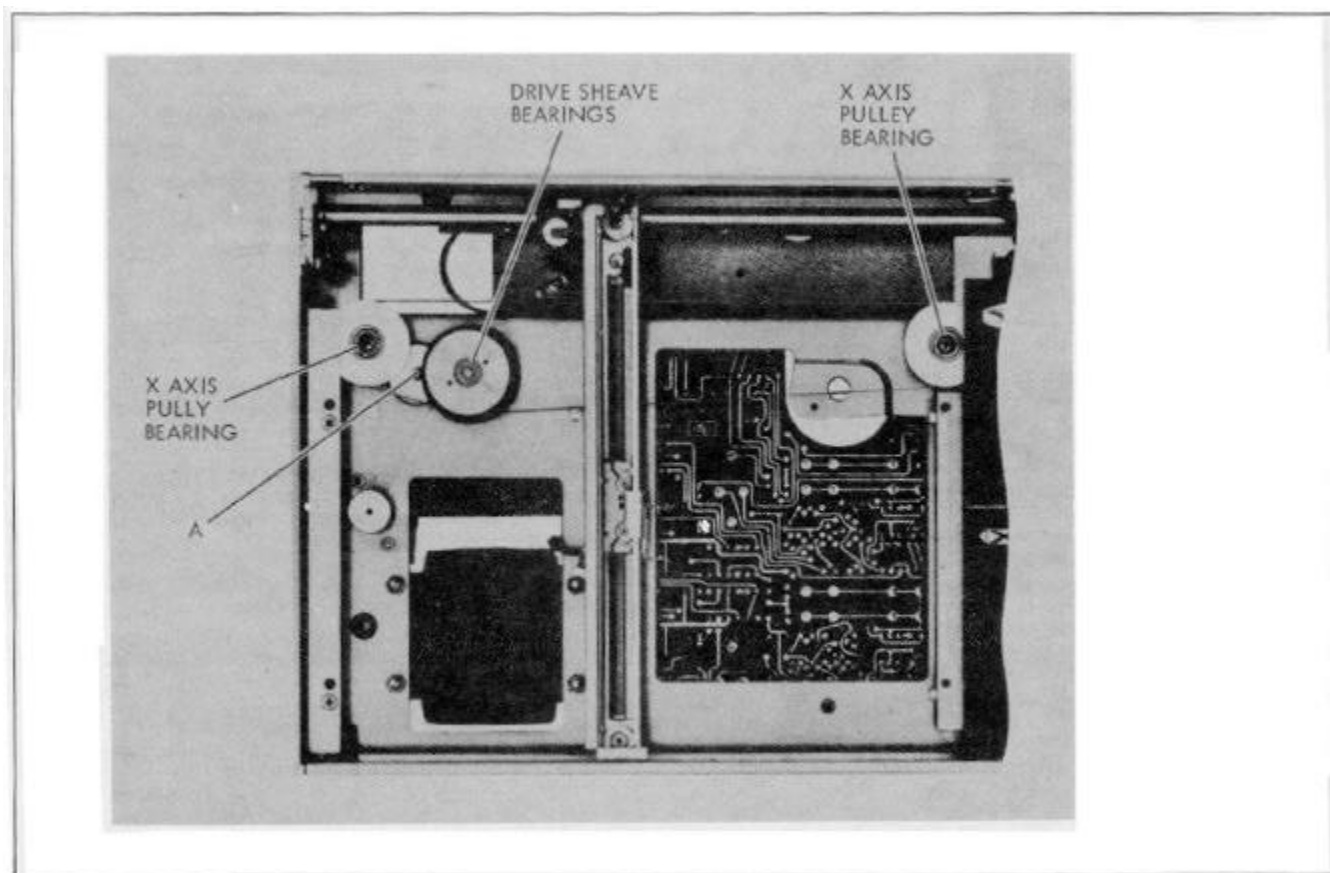

FIGURE 5-23. X-AXIS GEAR TRAIN BEARINGS
5-87. To replace any of the X-axis drive bearings, the X-axis drive cable must be partially or completely removed, depending on which bearing is affected. See Figure 5-23.
c. Remove two clamps holding pulley housing. Slip drive belt off pulley and pull assembly (A) out of its hold from bottom. See Figure 5-23.